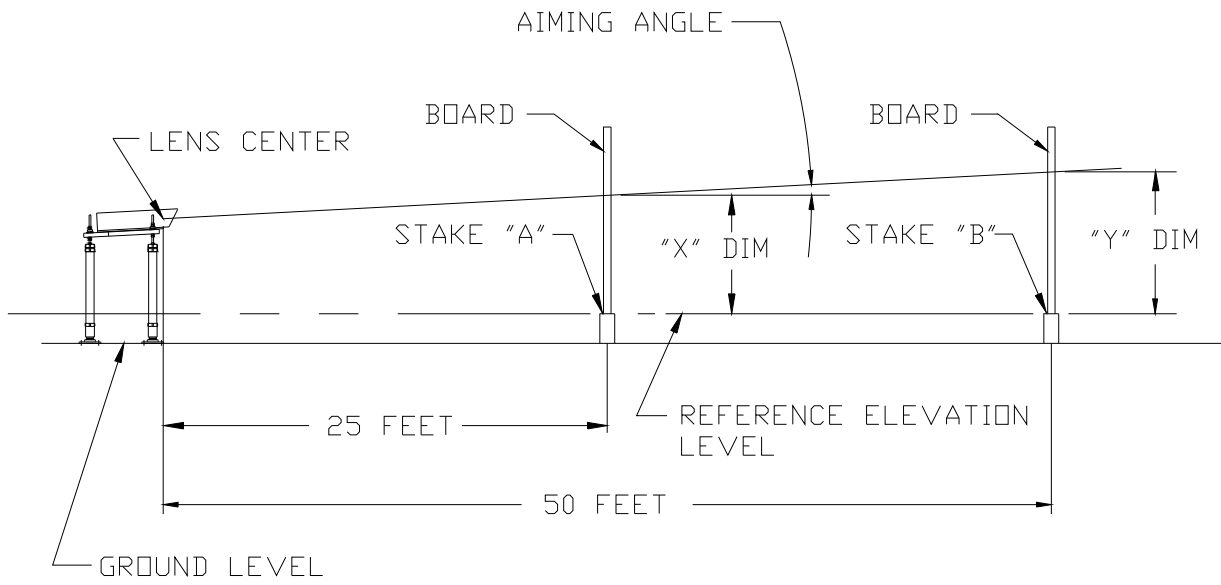

FIGURE 3
- A8. Record the distance from the top of the stake to the hole. This is dimension X. See Figure 3.
- A9. Repeat Steps 4 through 8 for Stake B. The distance from the top of the stake to the hole is dimension Y. See Figure 3.